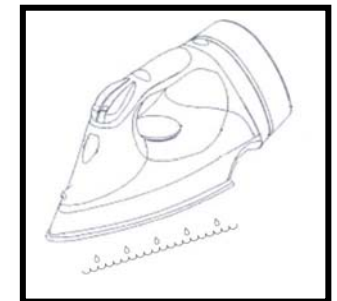

Figure 7
6. Boiling water and steam will now be ejected from the holes in the soleplate. The impurities and scale are washed away with it. See Figure 7.